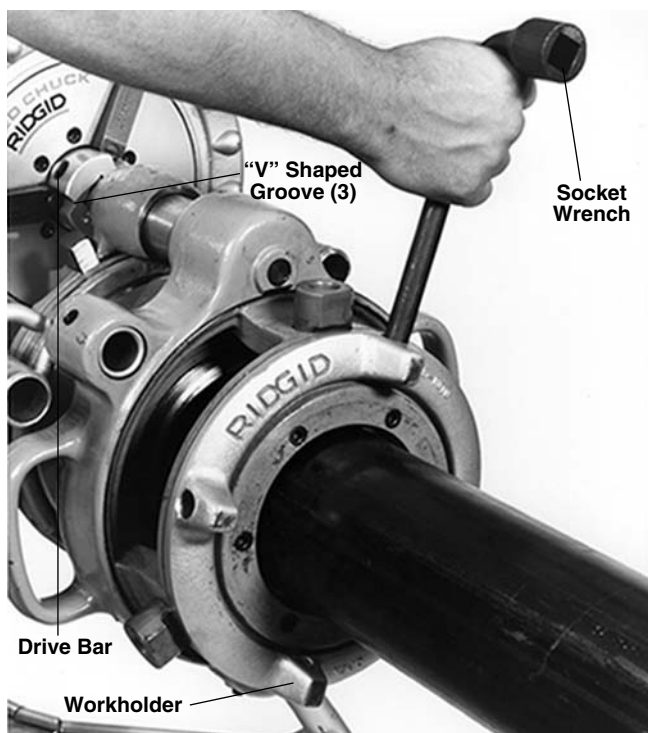

Figure 18 – Tightening Workholder on No. 141 Geared Threader (No. 161 Threader Similar)
7. Insert pipe in threader and center end of pipe in throat of dies. Tighten workholder with socket wrench (Figure 18).